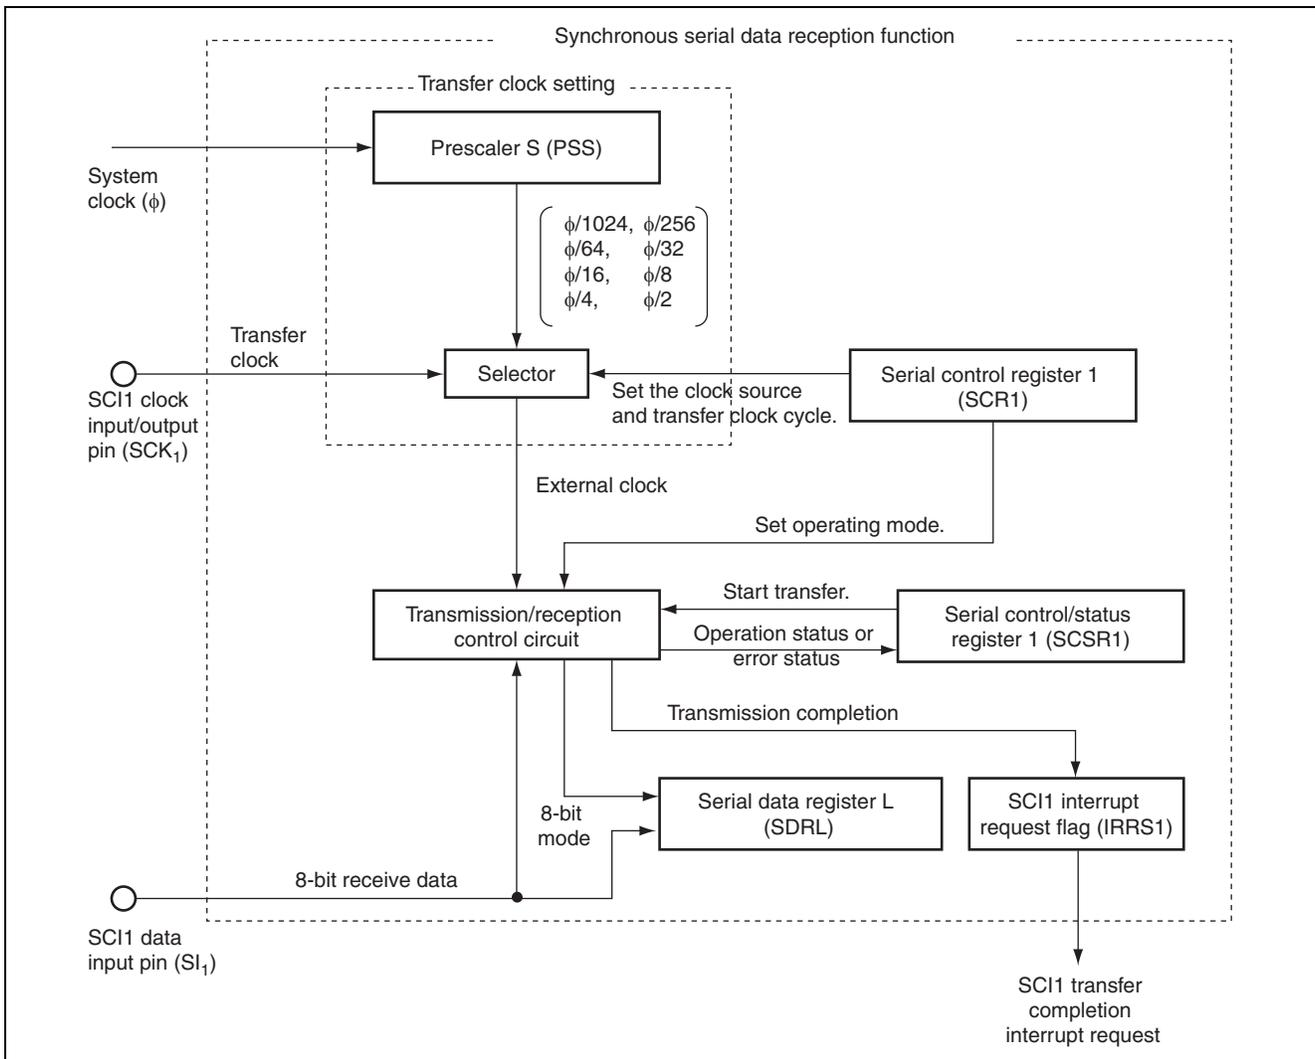

Figure 2.1 Block Diagram of Synchronous Serial Data Reception Function
1. In this sample task, serial data is received in synchronous mode via the serial communication interface (SCI). Figure 2.1 shows a block diagram of serial data reception in synchronous mode, and the following is the description for the block diagram: